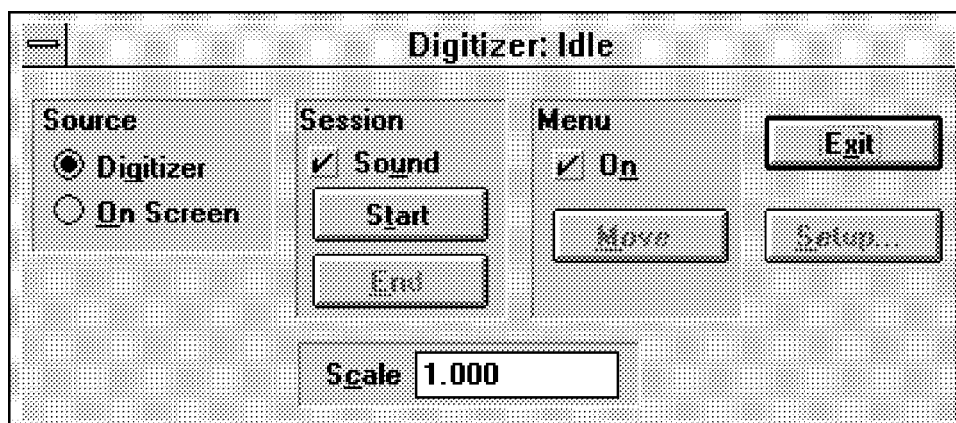

Figure 3-5
4. Click on the "Digitize" menu item in the drop-down menu that is now on the screen (see Figure 3-4). A dialog box will come onto the screen that is entitled "Digitizer: Idle" (see Figure 3-5).